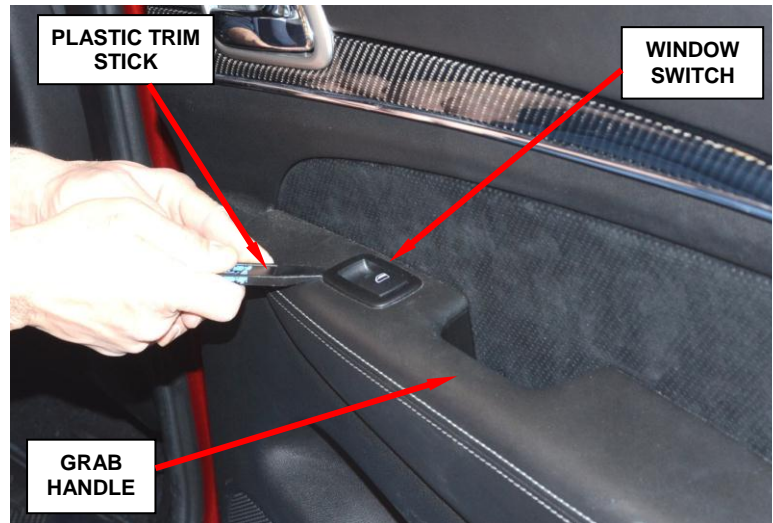

Figure 20 – Window Switch
4. Remove and save the window switch assembly (Figure 20).
6. Working from the back side of the door panel, carefully remove and save the seven (7) carbon fiber door panel bezel retaining screws.